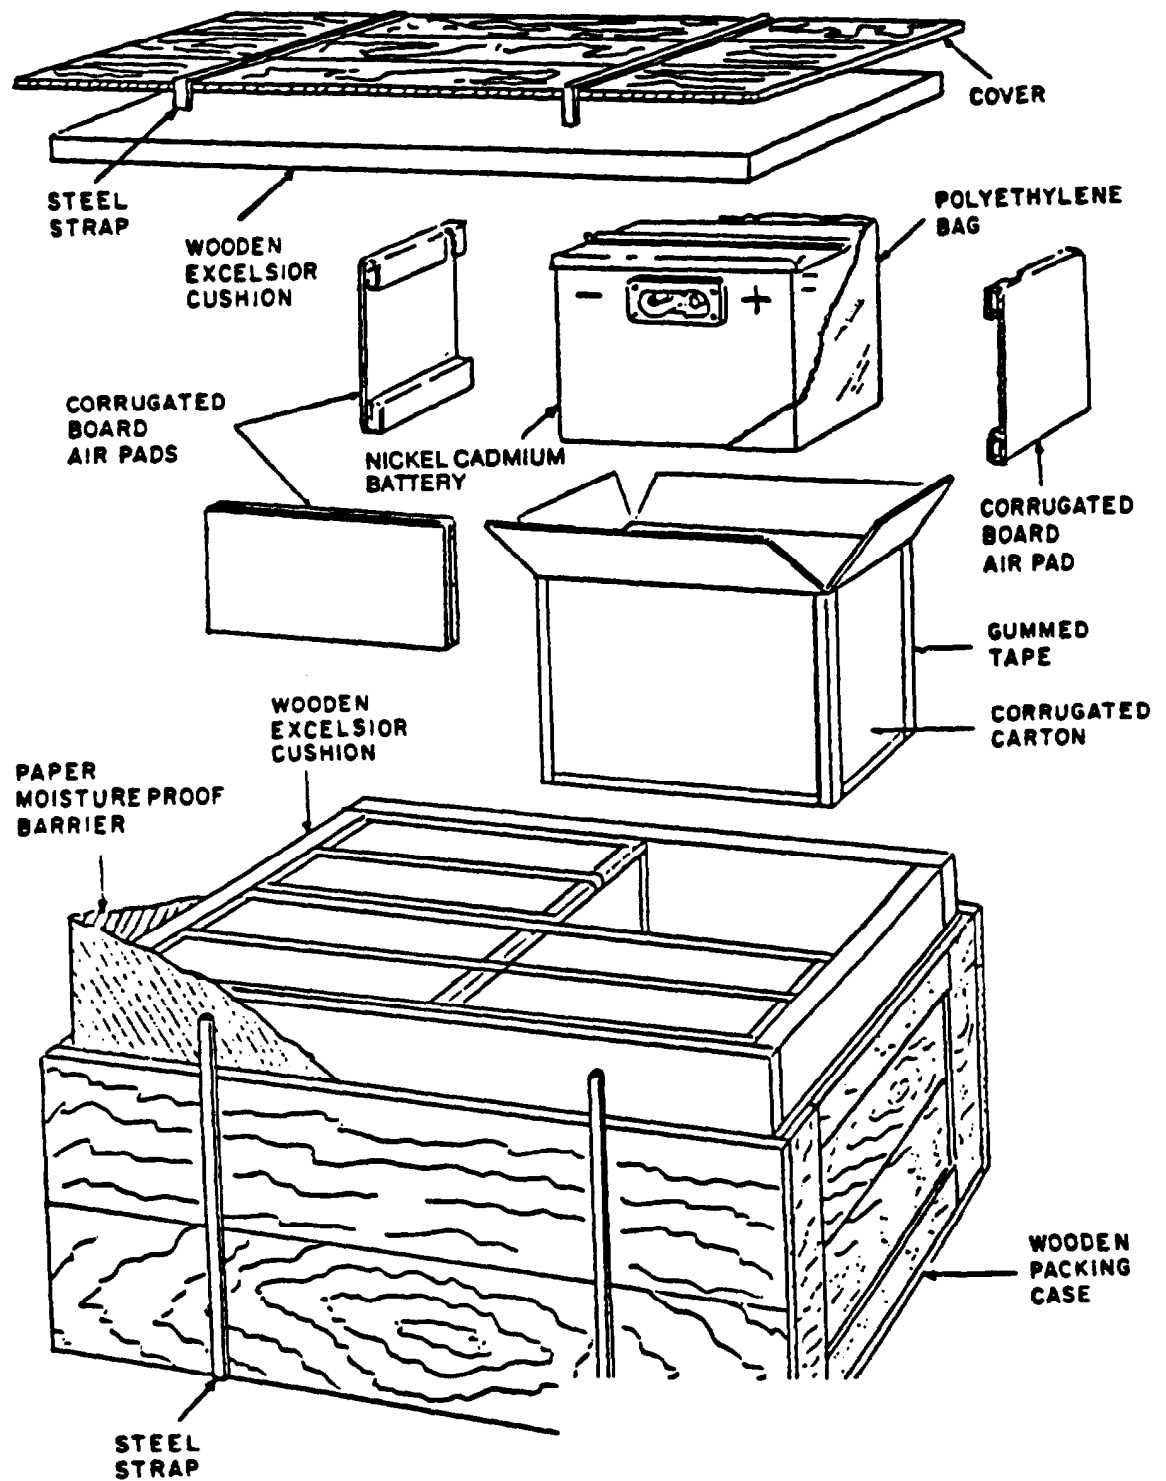

Figure 3-31. Typical Nickel-Cadmium Battery Packaging (Multiple).
(2) Several cartons may be packaged in a larger wooden case (fig. 3-31) with each battery enclosed in a separate container.